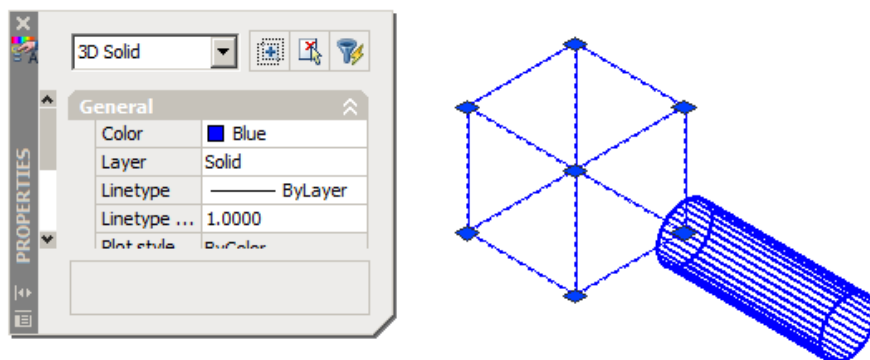

Figure Step 9
Step 9 Using the Properties window, ensure that the two 3D Solid objects were separated as shown in the figure. (Figure Step 9)